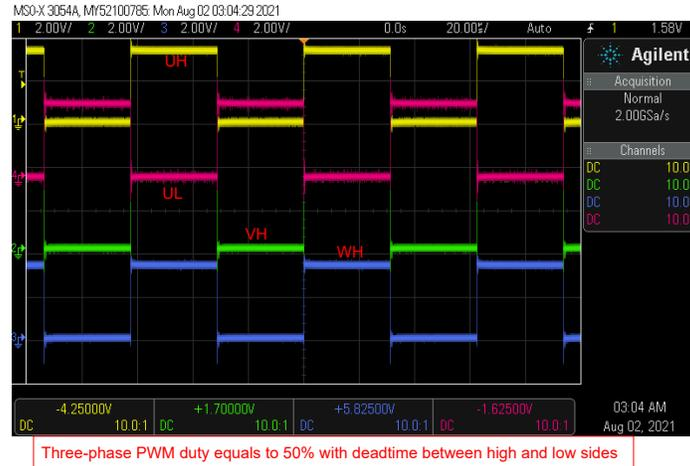

Figure 3-31. Build Level 1: PWM Output Waveforms
9. Using an oscilloscope, probe the PWM outputs that are used for motor drive control. The duty cycles of the three PWMs are set to 50% in this build level. The expected PWM output waveforms are as shown in Figure 3-31. The PWM switching frequency will be the same as the value that was set for the USER\_M1\_PWM\_FREQ\_kHz define in the *user\_mtr1.h* file.
The C2000 PWM with deadband outputs to the input of the gate drive as shown in Figure 3-31